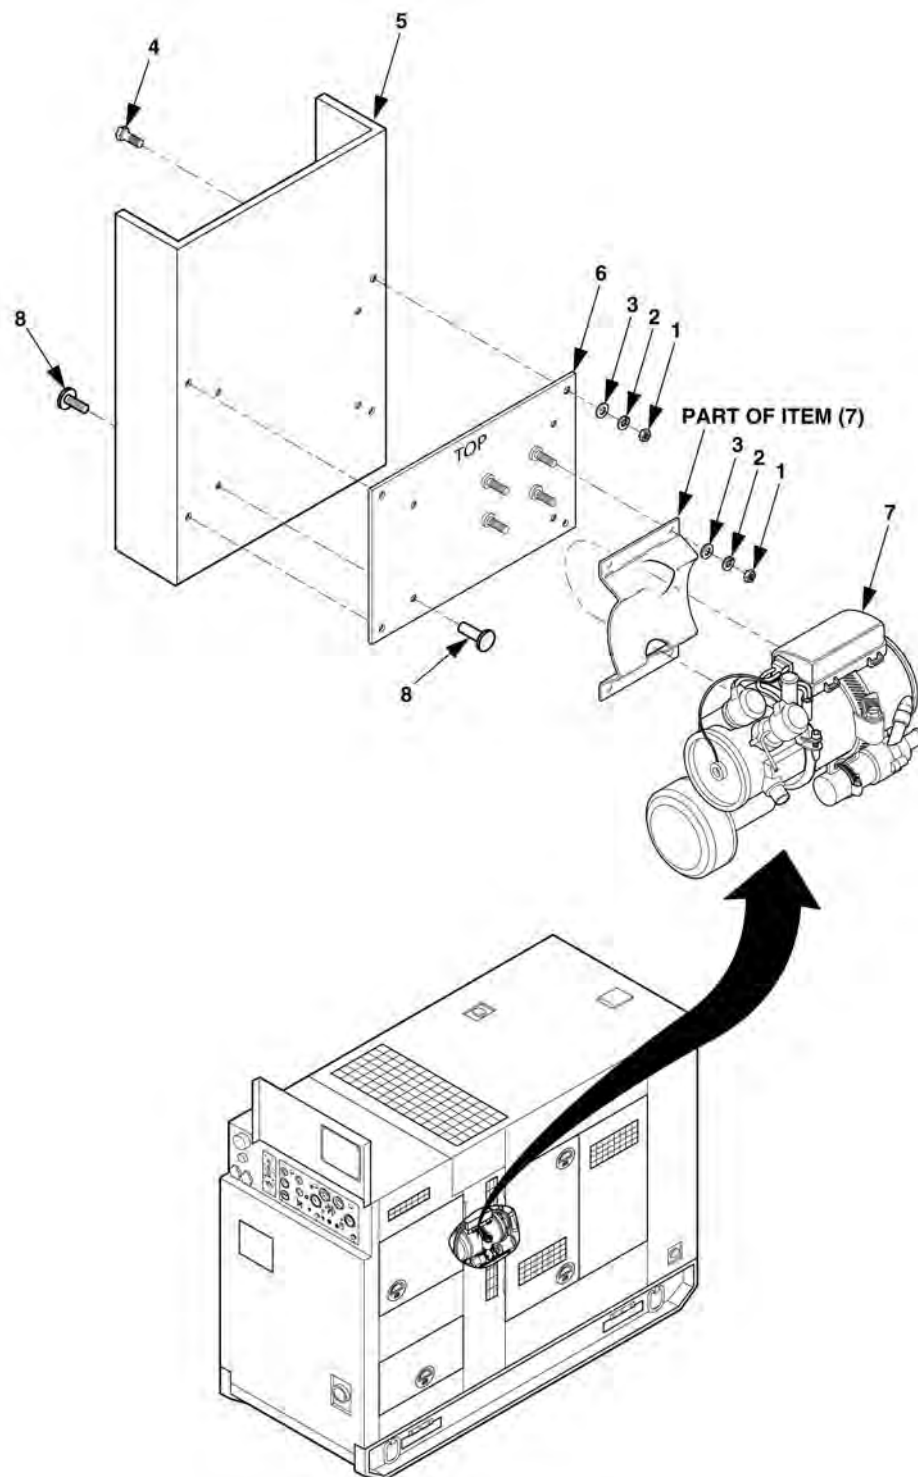

Figure 4-44. Heater Assembly.
13. Remove heater assembly (7), Figure 4-44, from left side panel (5) along with all hardware and plate (1, 2, 3, 4, 6, and 8).